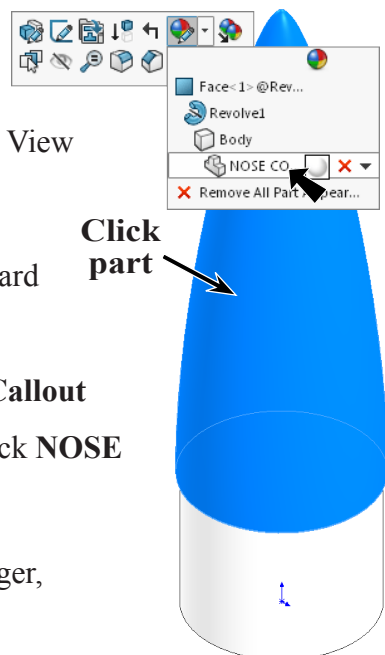

Fig. 34
Step 3. Click the part, click **Appearance Callout**  on the context toolbar and click **NOSE CONE** , Fig. 34.